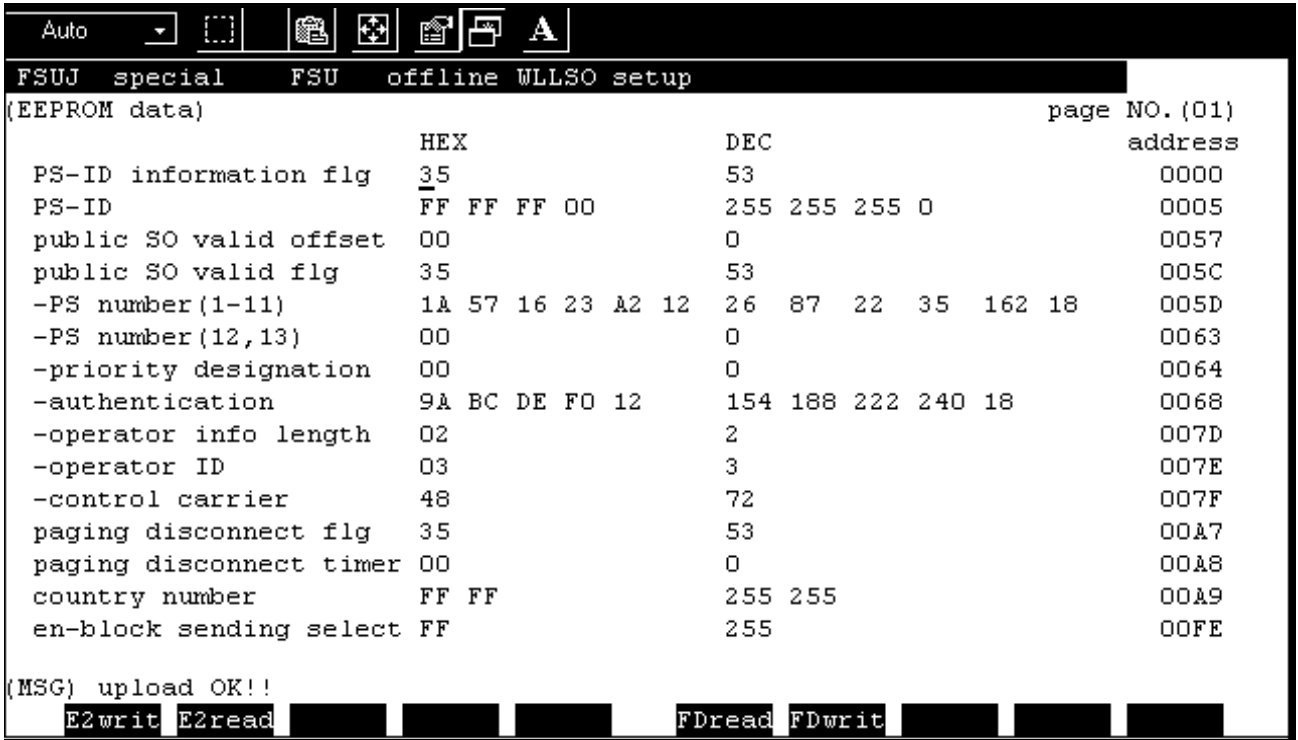

Figure 4-4 : WLLSO Setup Screen With Configuration Data
- 7. A confirmation box appears prompting **execute to read to E2PROM. OK (Y/N)**. Enter Y. The screen is populated with the factory configured data. Refer to Figure 4-4.